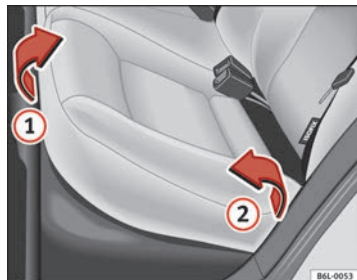
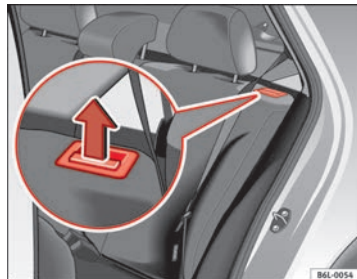

Fig. 74 Folding up the rear seat cushion
Fig. 75 Button for unlocking the rear backrest
- Pull the front edge of the seat cushion ⇒ Fig. 74 ① upwards in the direction of the arrow.
- Lift the cushion ② forwards in the direction of the arrow.
- Pull the release button ⇒ Fig. 75 in the direction of the arrow and fold the backrest forwards.